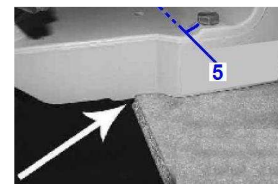

Fig.2
2. Place machine on a flat, stable and solid surface or a workbench. When installing it on a desk or workbench: put the machine on the edge of the desk / workbench up to the stop limit (see Fig.2) and screw it to the desk /workbench using the holes (5) in the base (screws and bolts not supplied).